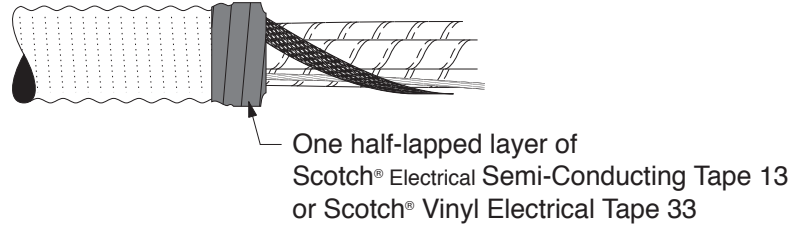

Figure 21
- c. Cover constant force springs and edge of armor with one half-lapped layer of Scotch® Electrical Semi-Conducting Tape 13 or Scotch® Vinyl Electrical Tape 33 (*Figure 21*).